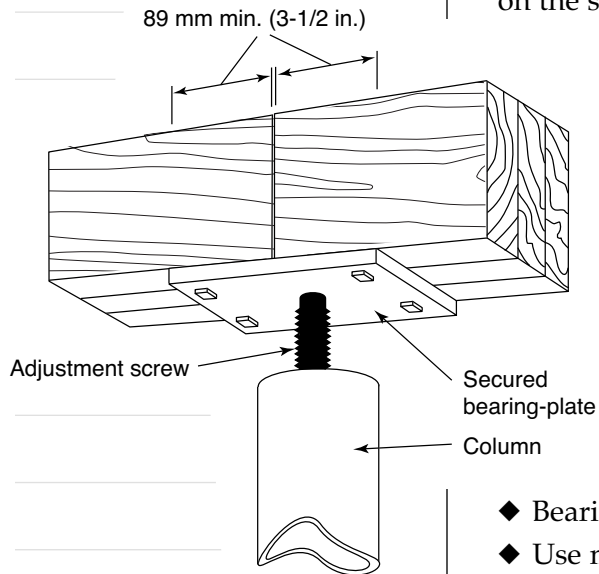

FIGURE 11
- ◆ At least 89 mm (3-1/2 in.) of the beam must bear evenly on the support. Where individual plies of built-up beams butt over a centre post, each ply must have at least 89 mm (3-1/2 in.) of bearing (see Figure 11).